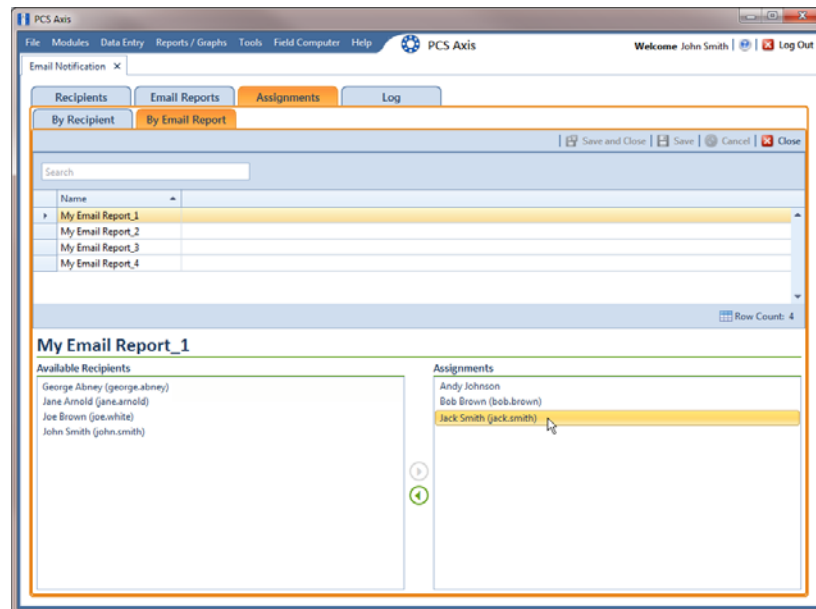

Figure 12-18. Email Notification Assignments By Email Report
- 2) Double-click a recipient name in the *Assignments* pane to move it to the *Available Recipients* pane. Then click **Save**. The email report is sent only to those recipients listed in the *Assignments* pane (Figure 12-18).